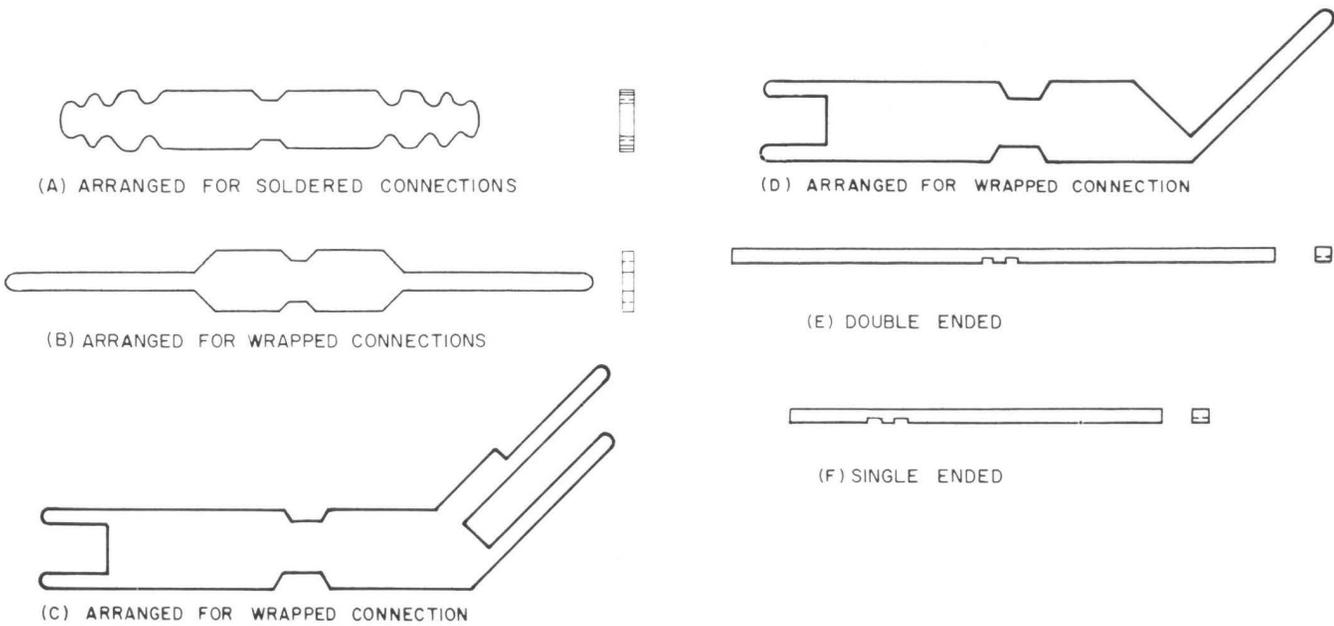

Fig. 1—Replacement Terminals
**1.03** The procedures covered in this section are applicable to most cast resin terminal strips having the following types of terminals: flat punched terminals arranged for soldered connections, Fig. 1(A), and flat punched, Fig. 1(B), (C), and (D), and drawn wire, Fig. 1(E) and (F), terminals arranged for wrapped connections. It is not practicable to apply these procedures to terminal strips having flat punched terminals on which the center spacing of the terminals in either direction is less than 9/32 inch or drawn wire terminals on which this center spacing is less than 3/16 inch.
**3.19** Select the proper replacement terminal by referring to Fig. 11 and 12. Using the 0.052-inch twist drill and the hand or electric drill, enlarge the hole from which the broken terminal was removed by running the twist drill through the hole once. Take care to hold the drill perpendicular to the face of the block. Insert one end of the replacement terminal in the slotted end of the KS-16748 inserter. In the case of the single-ended terminal, insert the long end of the terminal (see Fig. 1(F) and Fig. 12) in the tool. Then insert the free end of the terminal into the hole in the terminal strip. (In the case of the single-ended terminal this should be done at the side of the terminal strip from which the long ends of the terminals project.) Tap the end of the inserter with the 4-ounce riveting hammer until the slotted end of the inserter touches the face of the terminal strip. Remove the inserter from the terminal and position the inserter on the terminal so that the terminal is seated in the hole in the unslotted end of the inserter. Tap the slotted end of the inserter with the hammer until the